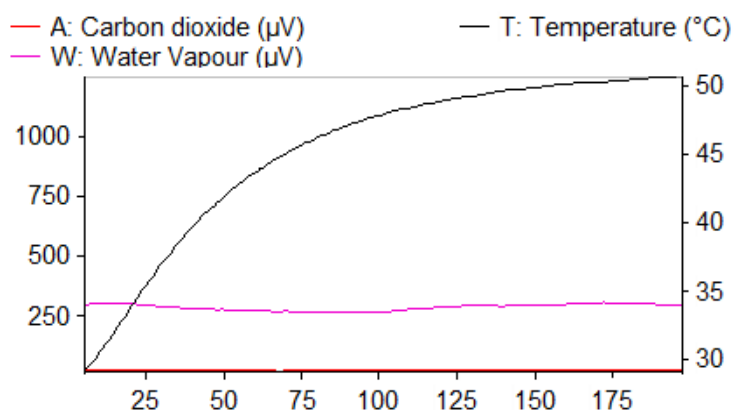

Figure 24. Data for the measurements during warming up the Monitor
- *Start* measurements  (or *Sequence* → *Start*) and wait until the temperature will reach around 40-45 °C, see Figure 24.